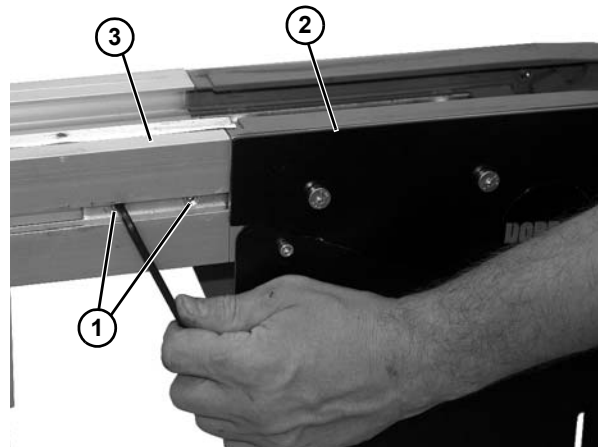

Figure 124
3. Loosen two screws (Figure 124, item 1) on each side of conveyor, and remove the drive tail assembly (Figure 124, item 2) from the conveyor frame (Figure 124, item 3).